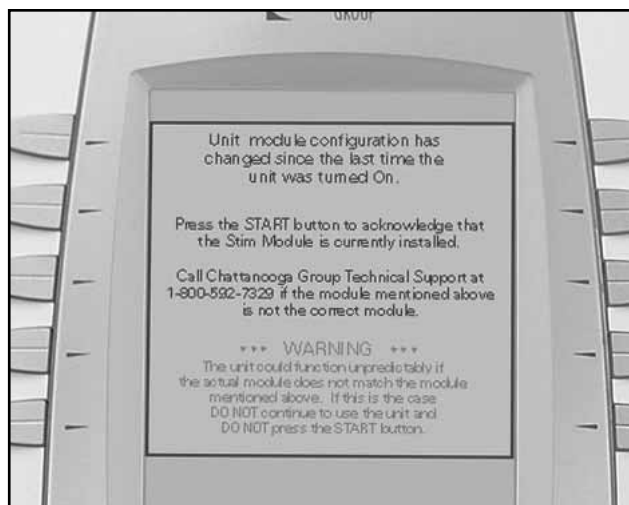

FIGURE 6.16
7. Turn the System On using the On/Off Switch. The system will automatically recognize the added module and display a configuration change message. See Figure 6.16.